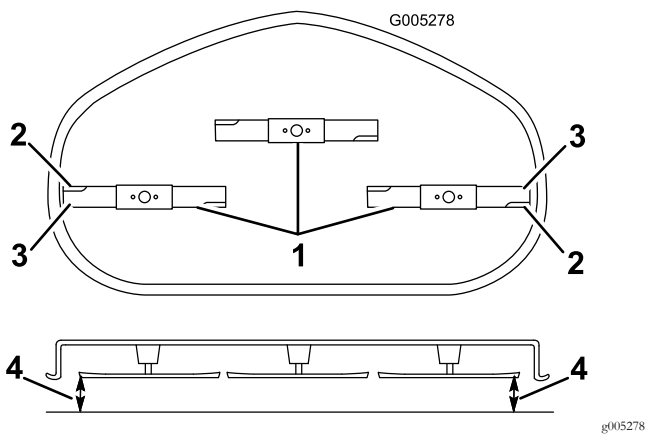

Figure 54
4. Carefully rotate the blades so that they are all side to side (Figure 54).
5. Measure between the outside cutting edges and the flat surface (Figure 54).